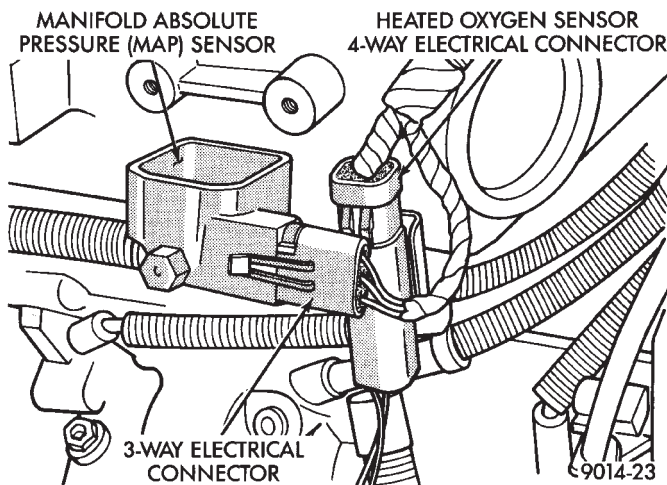

Fig. 6 MAP Sensor Electrical Connector
(11) Disconnect MAP Sensor and heated Oxygen Sensor electrical connection. Remove the engine mounted ground strap (Fig. 6).